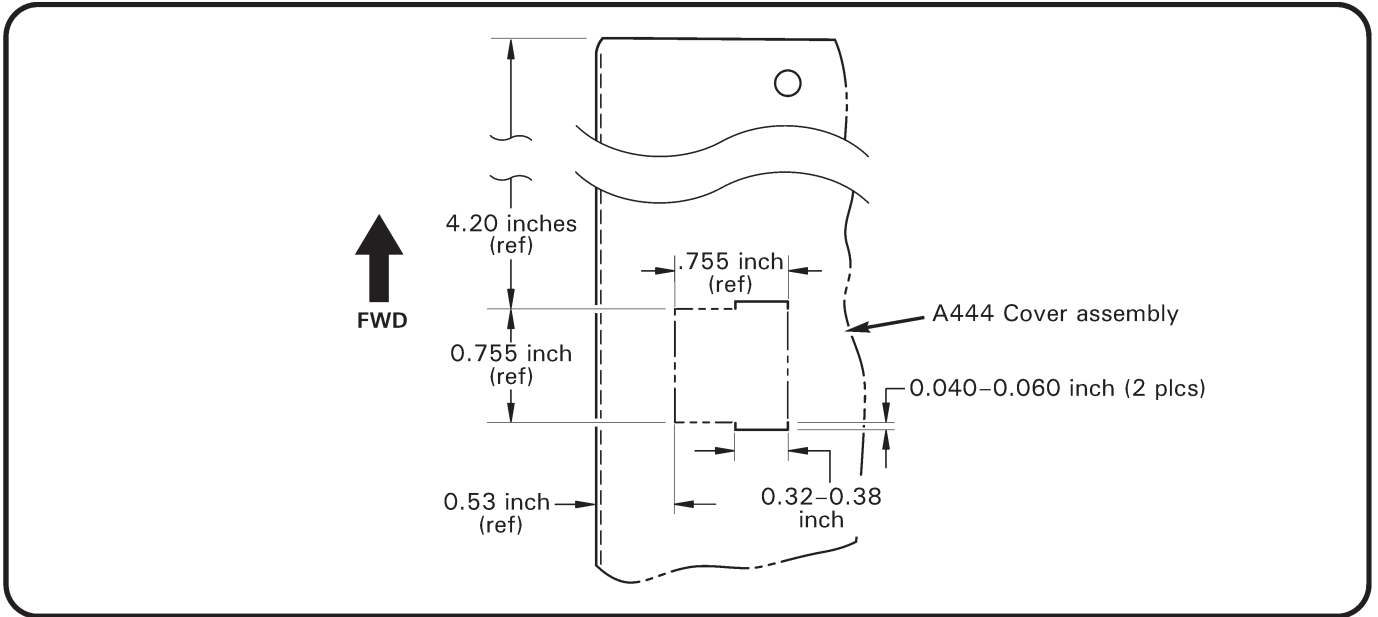

FIGURE 1
5. Refer to Figures 1 & 2. If required, create or modify remote switch hole in A444 cyclic box cover per Figure 1. Clean up debris.